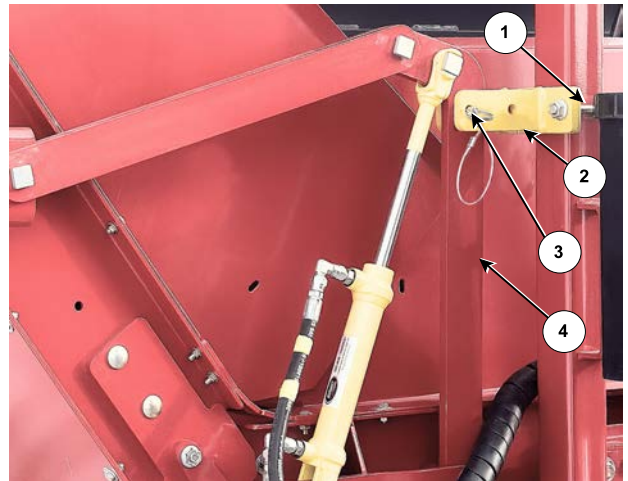

Figure 18: Install the transport lock
24. Install the transport lock on the right platform upright, see *Figure 18*.
- Loosely attach the U-bolt (1) and lock bracket (2) to the platform upright.
- Insert the lock pin (3) through the lock bracket and into the lift arm (4).
- Secure the U-bolt (1) and lock bracket (2) in place using flange lock nuts.